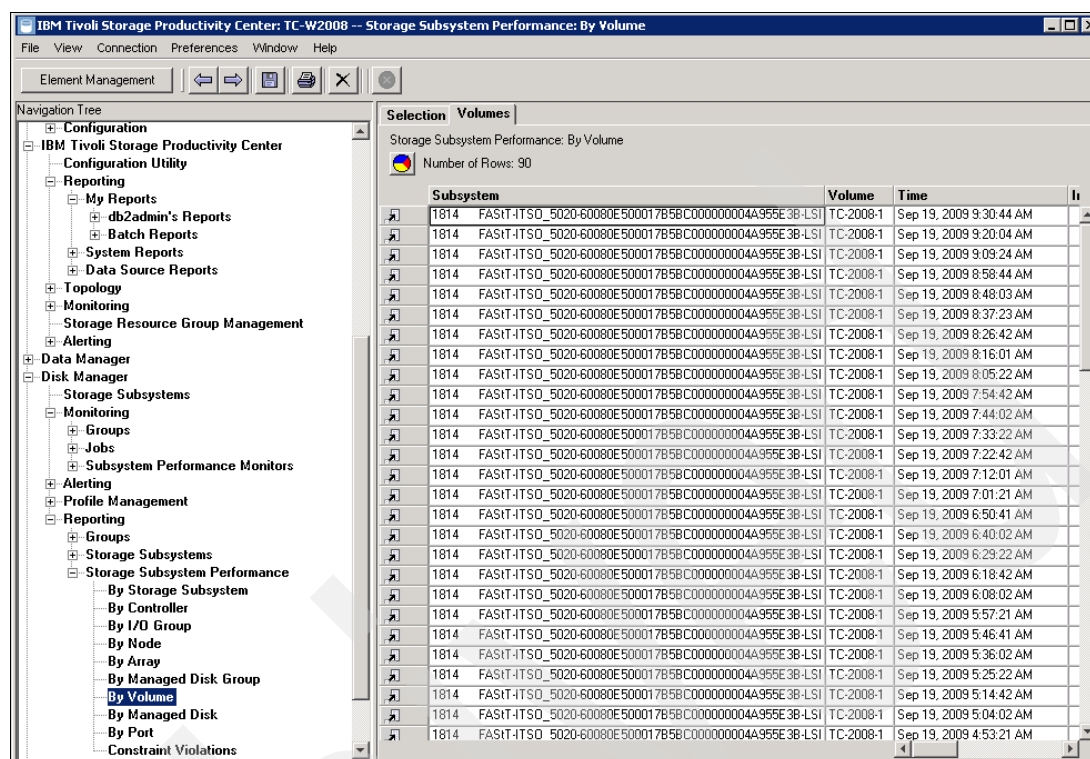

Figure 9-36 Query result
4. Click **Generate Report** to start the query. The result is displayed as shown in Figure 9-36.